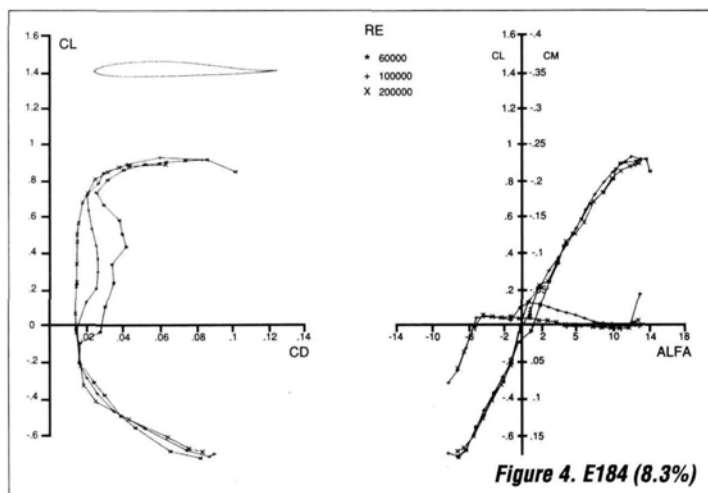
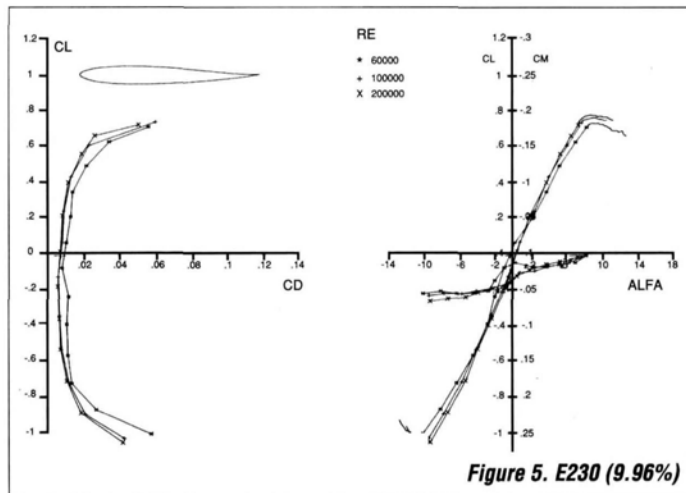
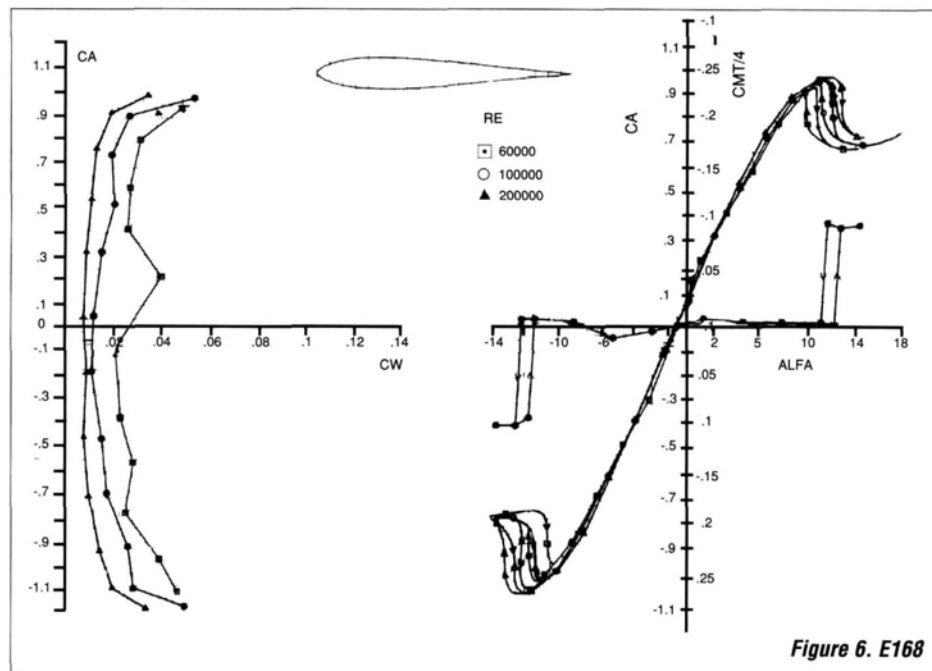

Figure 4. E184 (8.3%)
Figure 5. E230 (9.96%)
Figure 6. E168
To reduce or eliminate the airfoil's nose-down pitching moment, symmetrical airfoils or airfoils with reflexed mean lines were used. Figures 4 and 5 illustrate two reflexed airfoils (E184 and E230); E184 has a low nose-down pitching moment, and E230 has a nose-up moment. An E184 airfoil inboard with an E230 airfoil toward the tips on a swept-back wing could provide sufficient balancing force. Figure 6 shows E168—a symmetrical airfoil that has no pitching moment, except at the stall during which the airfoil becomes nose-down and is stabilizing.
However, reflexed and symmetrical airfoils have substantially reduced maximum lift coefficients; E214 has a coefficient of lift (CL) max. of 1.25 (Figure 5), whereas E230 (Figure 6) has a CL max. of only 0.78. Since both stall and landing speeds